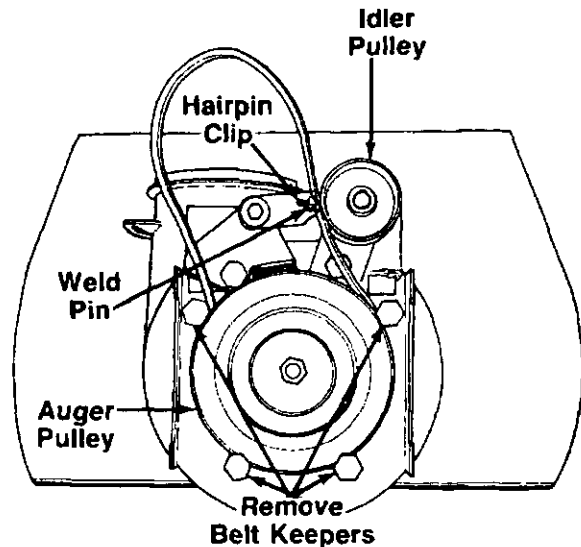

FIGURE 25.
9. Using a 15/16" wrench, remove the four shoulder bolts and cupped washers which act as belt keepers. See figure 25.
12. Push the idler to the right to extend the spring. Remove belt from between idler pulley and weld pin. See figure 25.